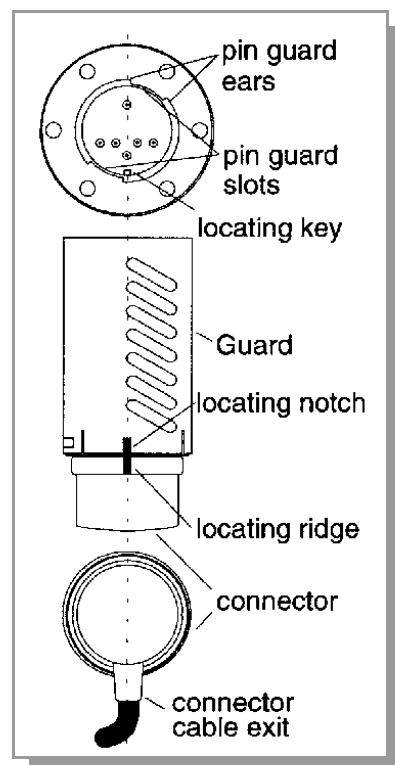

Figure 3-17 Stabil-Ion Gauge Connector Orientation (Prior to Installation).
- a. Line up the locating notch on the connector locking ring with the matching ridge on the blue connector shell. See Figure 3-17.